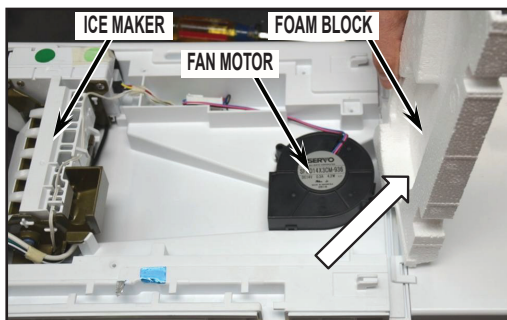

FIGURE 36
10. Remove foam block. See *Figure 36*.